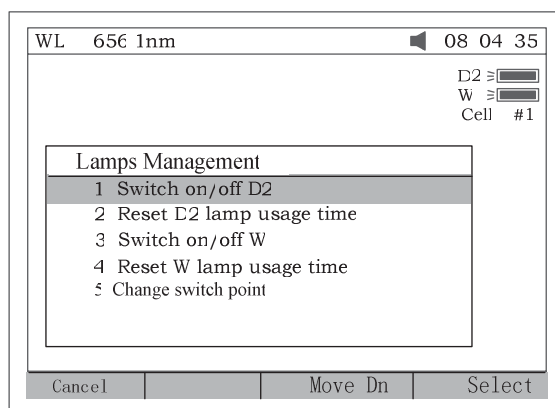
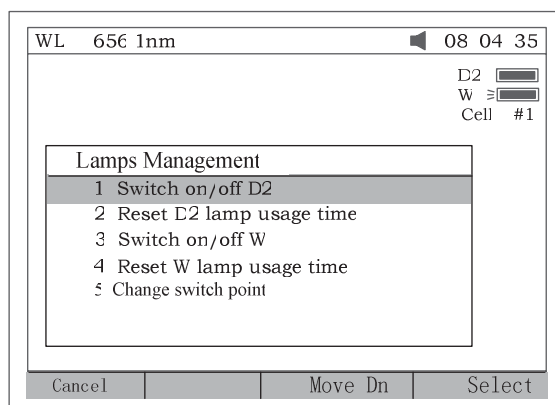
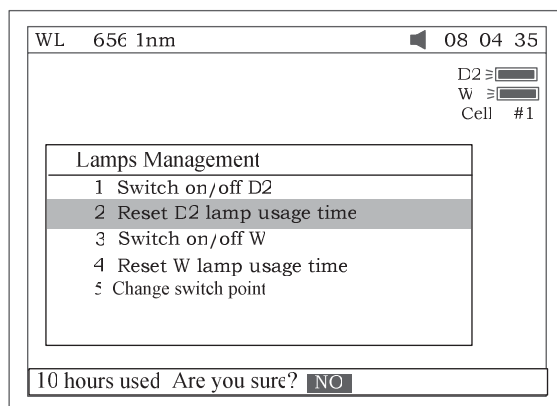
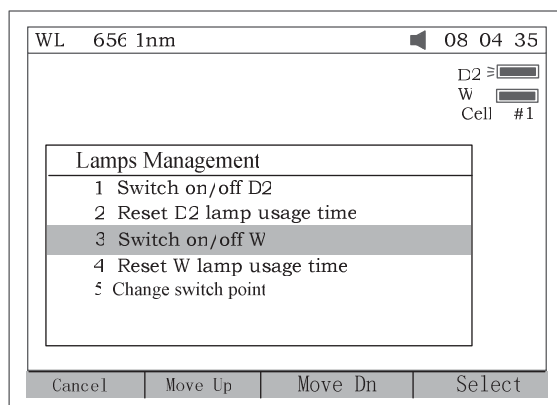

Fig 78
Fig 79
Fig 80
Fig 81
Press **【3】** to set lamp (Fig 78). **【ESC】** to exit.
1. Press **【1】** in Fig 78 to switch on/off D2. (Fig 79). Pay attention to the D2 icon on the top of the right screen.
2. Press **【2】** in Fig 78 to reset usage time of D2 (Fig 80). Press **【^】** or **【v】** to select "Yes" or "No", and then press **【ENTER】**.
3. Press **【3】** in Fig 78 to switch on/off W. The indication is also on the top right corner of the screen (Fig 81).
4. Press **【4】** in Fig 78 to reset usage of W (Fig 82). Press **【^】** or **【v】** to select “Yes” or “No”, and then press **【ENTER】**.
5. Press **【5】** in Fig 78 to set the switch usage wavelength point of D2 and W lamp (Fig 83).